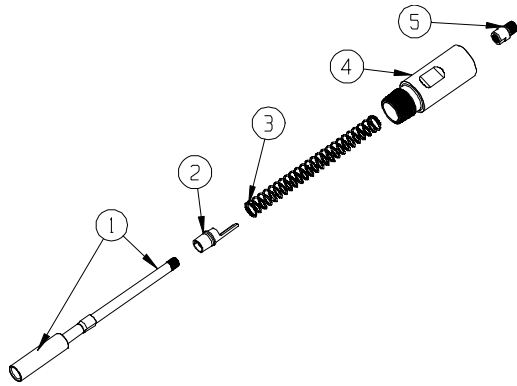

Figure 11-9 Remove Valve Stem form End Cap. 1-Valve Stem, 2-Valve Finger, 3-Spring, 4-End Cap, 5-Thread Adapter.
5. Slide the Valve Stem, Valve Finger and Spring from the End Cap as shown in Figure 11-9.